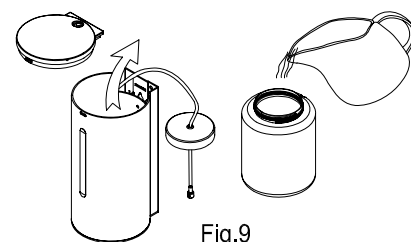

Fig.9
6. To safe guard the sensitive electrical components inside the dispenser, always remove the container completely from housing during refill. Never attempt to fill up when the inner container is still inside the housing unit. (Fig. 9)